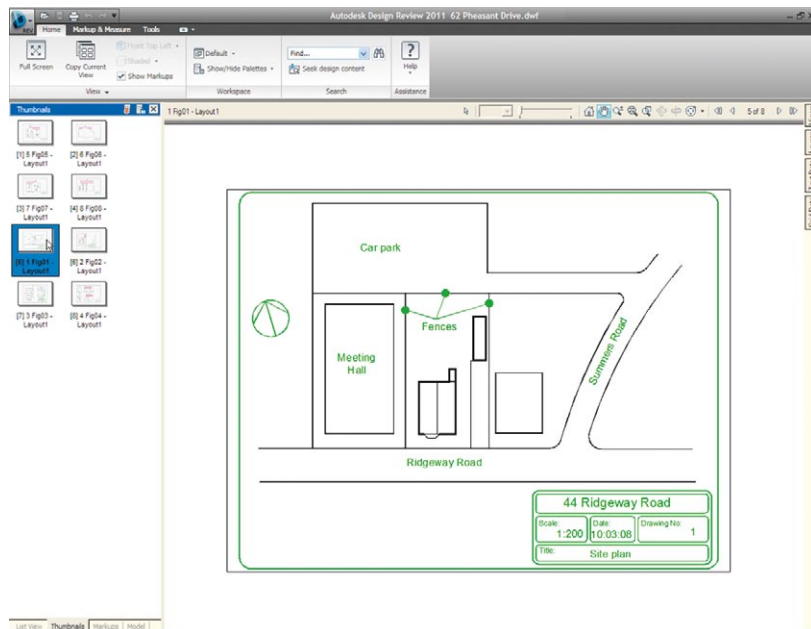

Fig. 11.14 The **Autodesk Design Review** showing details of the **62 Pheasant Drive.dwf** file
- The **Autodesk Design Review** window appears showing the **62 Pheasant Drive.dwf** file (Fig. 11.14). Click on the arrow **Next Page (Page on)** to see other drawings in the DWF file.